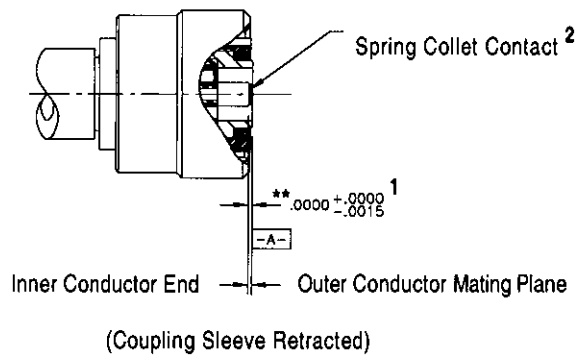

Figure 4. Coplanar Interface Requirements for 7mm Connector
5. 7mm connectors and variations should meet the coplanar interface requirements depicted in **Figure 4**.
8. Adjust the center conductor position so it is within the specified interface dimension for a 7mm precision connector. (See **Figure 4**). Tighten the center conductor locking mechanism.